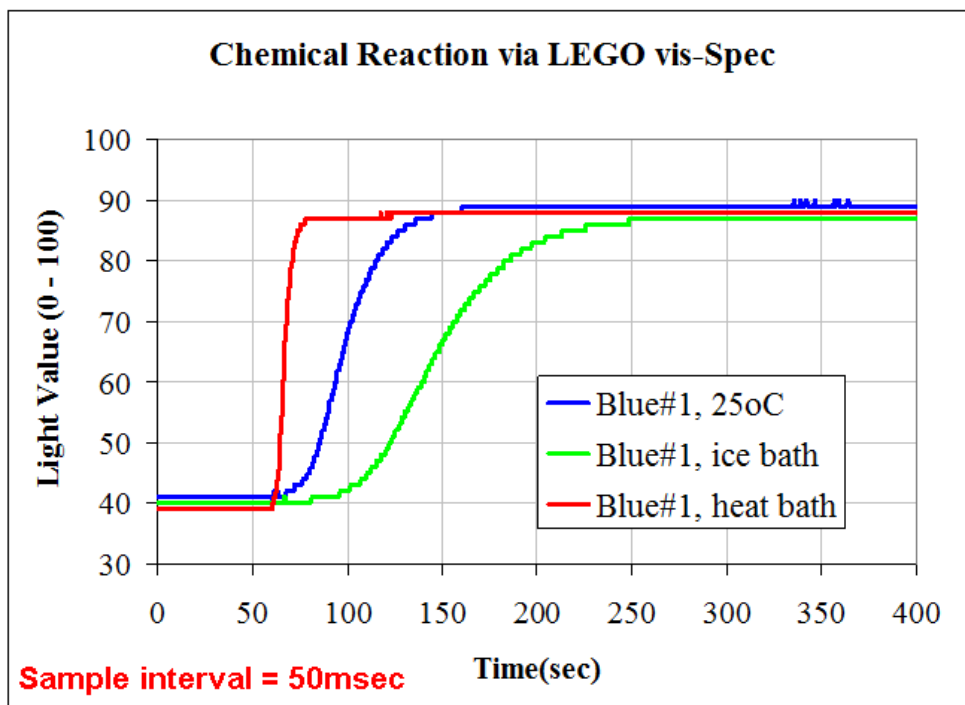

Figure 3
Blue#1. During the oxidation reaction the electrons, responsible for the intense blue color seen, are used up as they combine with oxygen. The delay (figure 3) observed after adding the bleach and an increase in the light level, is due to diffusion. That is, it takes a certain amount of time for the bleach to mix evenly in the Blue#1 solution.
Insert Figure 3 here, centered
4. After the temperature variation is completed, how could varying the volume of bleach, while keeping the total volume fixed, systematically change the speed of reaction as in figure 3.